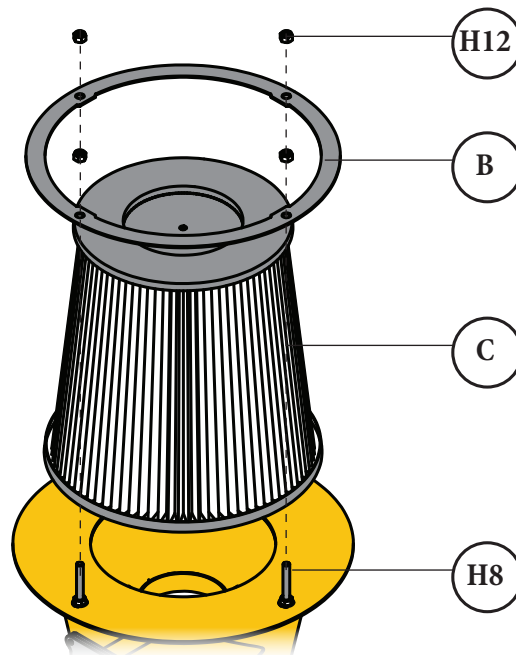

FIG. 11
Slide the Filter Hold-Down Plate (B) over the Filter (C) and the previously installed Hex Head Bolts (H8) and secure in place using four Nylock Nuts (H12) [FIG. 11].